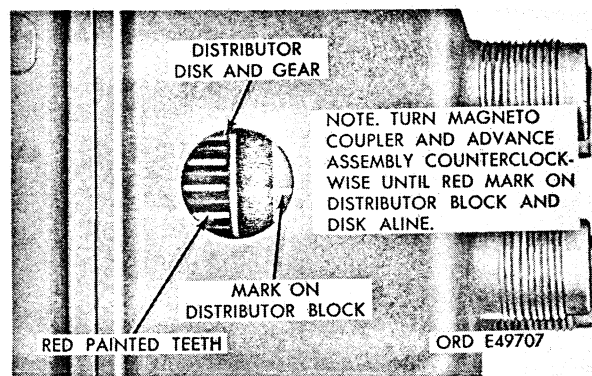

FIGURE 74.12 LOCATING NUMBER ONE CYLINDER FIRING POSITION.
h. Locating Number 1 Cylinder Firing Position. Locate Number 1 cylinder firing position following sequence of instructions which accompany figure 74.12.